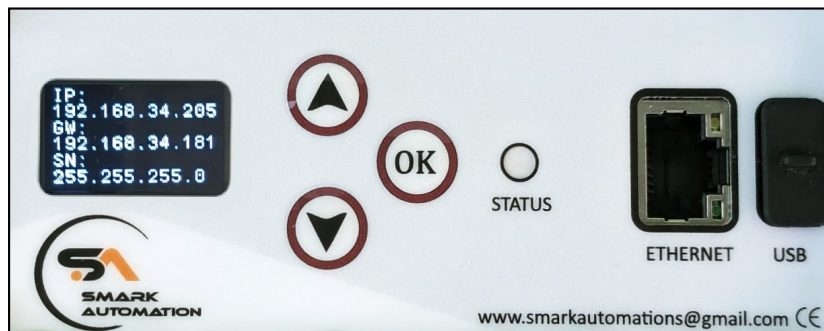

Figure 21: Network Configuration Display
To view the IP address and other network details, navigate to the "Show IP" option from the navigation menu. Pressing OK will display the IP address (IP), Gateway (GW), and Subnet (SN) as shown in Fig 21. The IP address displayed here is used to access the local web server. To access the web server, refer to Section 4.1 of the document.